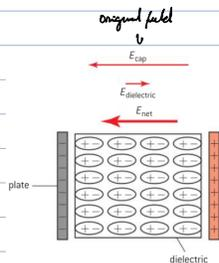

Figure 4 How a dielectric increases capacitance.
- As seen in figure 4, the original field, E_{cap} , is from right to left (positive to negative), but the dielectric field is from left to right.